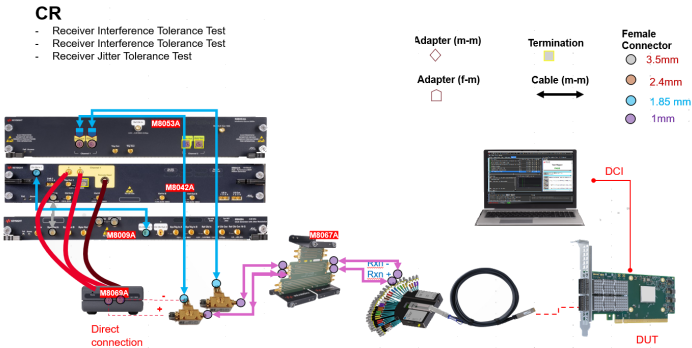

Figure 62 Connection diagram for Rx Jitter Tolerance Test without channel noise
- 1 Using the test setup in Figure 62 and the transmitter taps (but without the channel noise) as determined in the calibration procedures, configure the transmitter to transmit the test pattern specified in the PMD clause that invokes this method.
- 1 Using the test setup in Figure 62, the transmitter taps and the channel noise as determined in the calibration procedures, configure the transmitter to transmit the test pattern specified in the PMD clause that invokes this method.